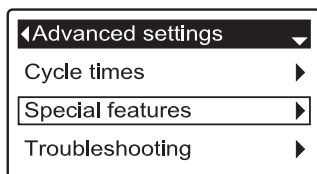

FIG. 68
3. Press the SELECT (O) button to display the Advanced settings menu (See Figure 68).